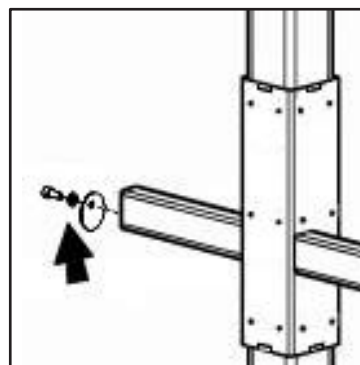

Figure 25
1. Remove the screw, washer, and retainer plate from the end of the right slide assembly arm (Figure 25).